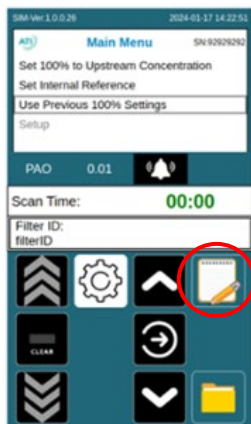

Figure 7. Notepad key
- By pressing the Notepad key (Figure 7) or